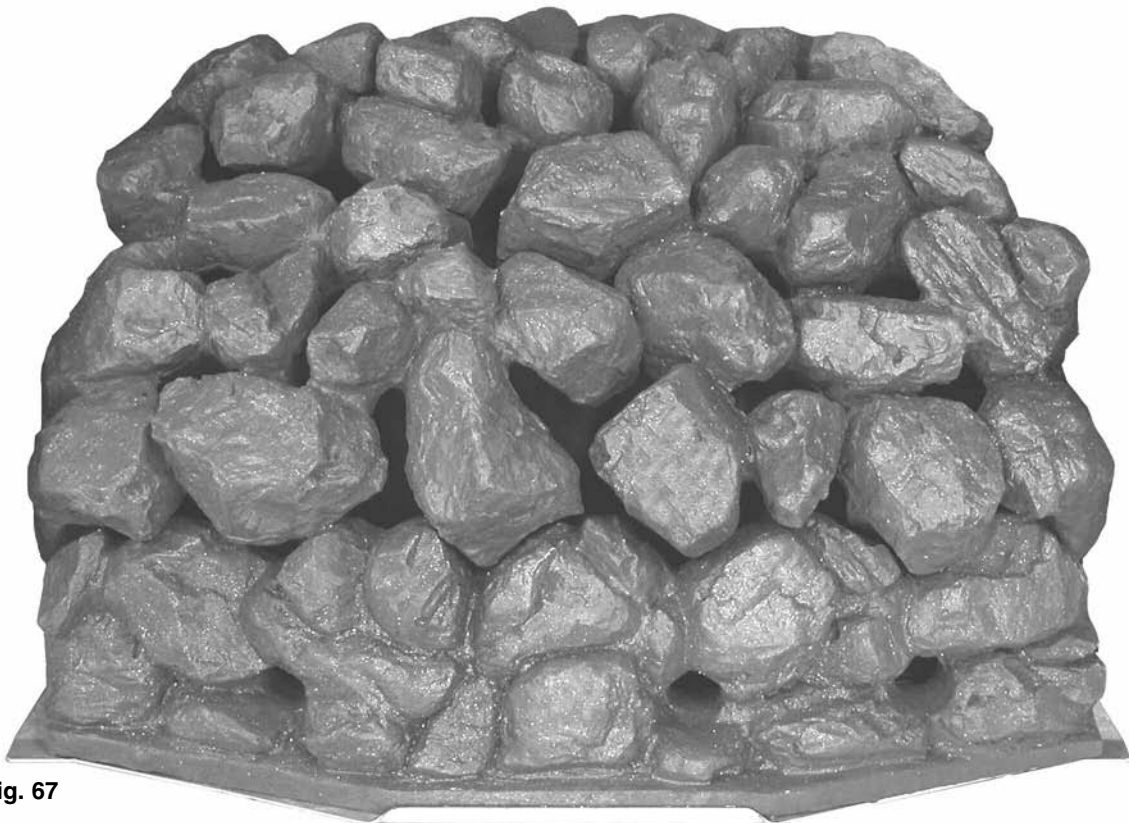

Fig. 67
5. Finally check that all the coal pieces are 'nested' together correctly (Fig. 67).